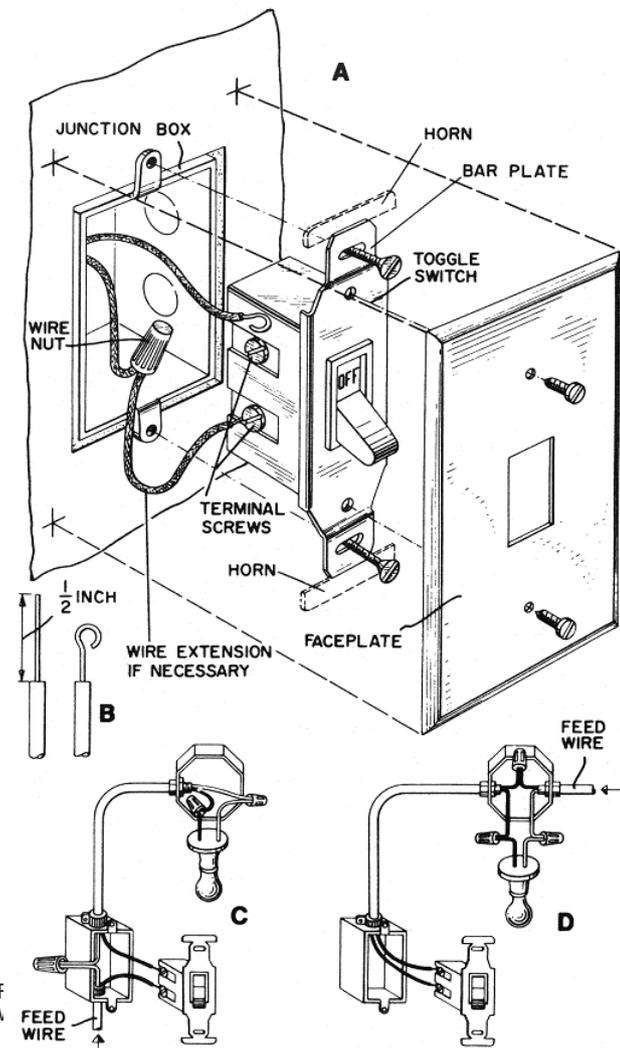

Figure 61.
10. Screw wire nuts onto newly spliced ends. See Figure 61 A.
14. Tighten screws over hooks in clockwise direction (Fig. 61 A).